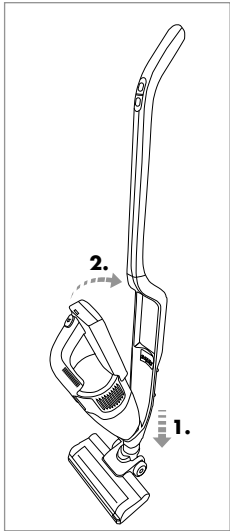

Fig. 3
- 1) To connect the hand element 3 to the handle rod 12, push the tip of the hand element 3 into the opening in the hand element recess 14 (Fig. 3).
- 2) Then press the grip 2 of the hand element 3 into the hand element recess 14 so that the hand element 3 clicks firmly into position (Fig. 3).